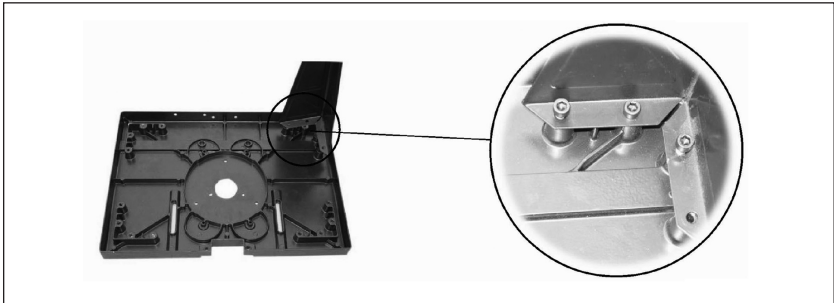

Fig. 3
- Place a table leg (2, Fig.1) using four allen hex head bolts (M6X12), do not fully tighten yet (Fig.3).